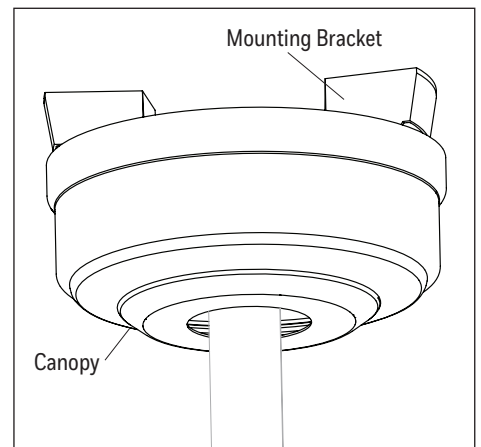

Figure 5.3
- Lift the canopy, ensure the magnets at the bottom of the mounting bracket secure the canopy in place (Figure 5.3).